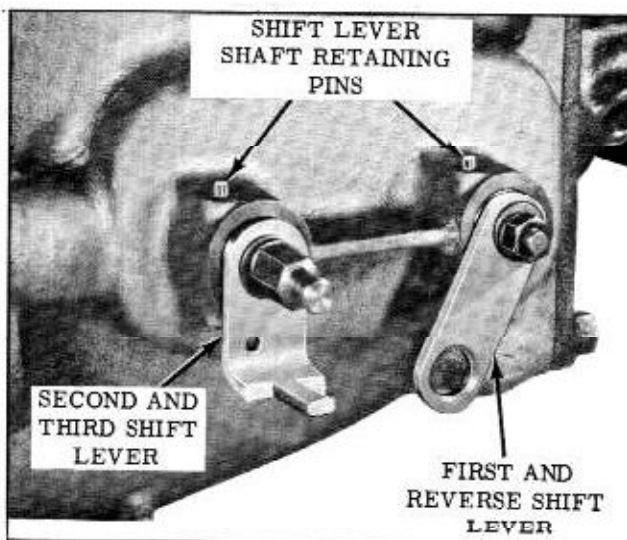

Fig. 10-19 Shift Lever Positions
29. Install shift lever shaft seals, outer shift levers, washers, and attaching nuts. (Fig. 10-19)